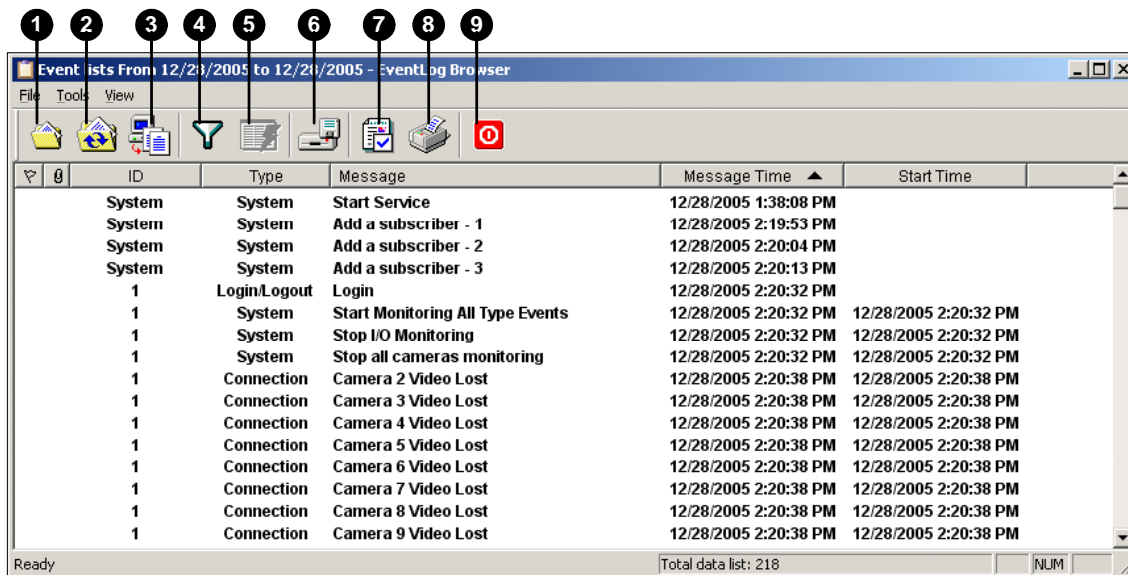

Figure 9-18 Event Log Browser
Click the **Open** button (No. 1, Figure 9-18) to launch the following Open DataBase dialog box. Define a time period, select the type of log, and click **OK** for search. Events matching the search criteria will be loaded to the Event Log Browser window.
Click the **Filter** button (No. 4, Figure 9-18) to bring up the following Eventlog -- Filter window. This option allows you to perform a search based on criteria.
1. On the Event Log Browser, click the **Page Setup** button (No. 7, Figure 9-18) to display this dialog box.